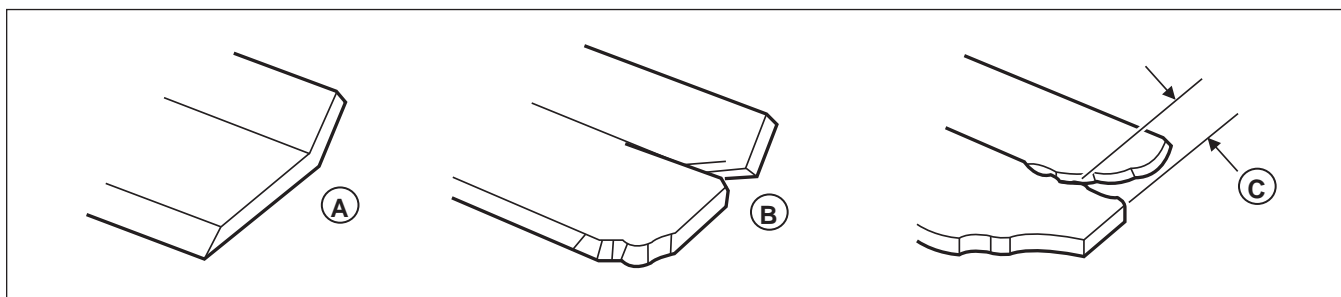

Figure 28. inspecting the Mower Blade Air Lifts
- The air lifts are excessively eroded (**B & C**, **Figure 28**) and the notch (**C**) is .25" (6,35 mm) deep or greater.